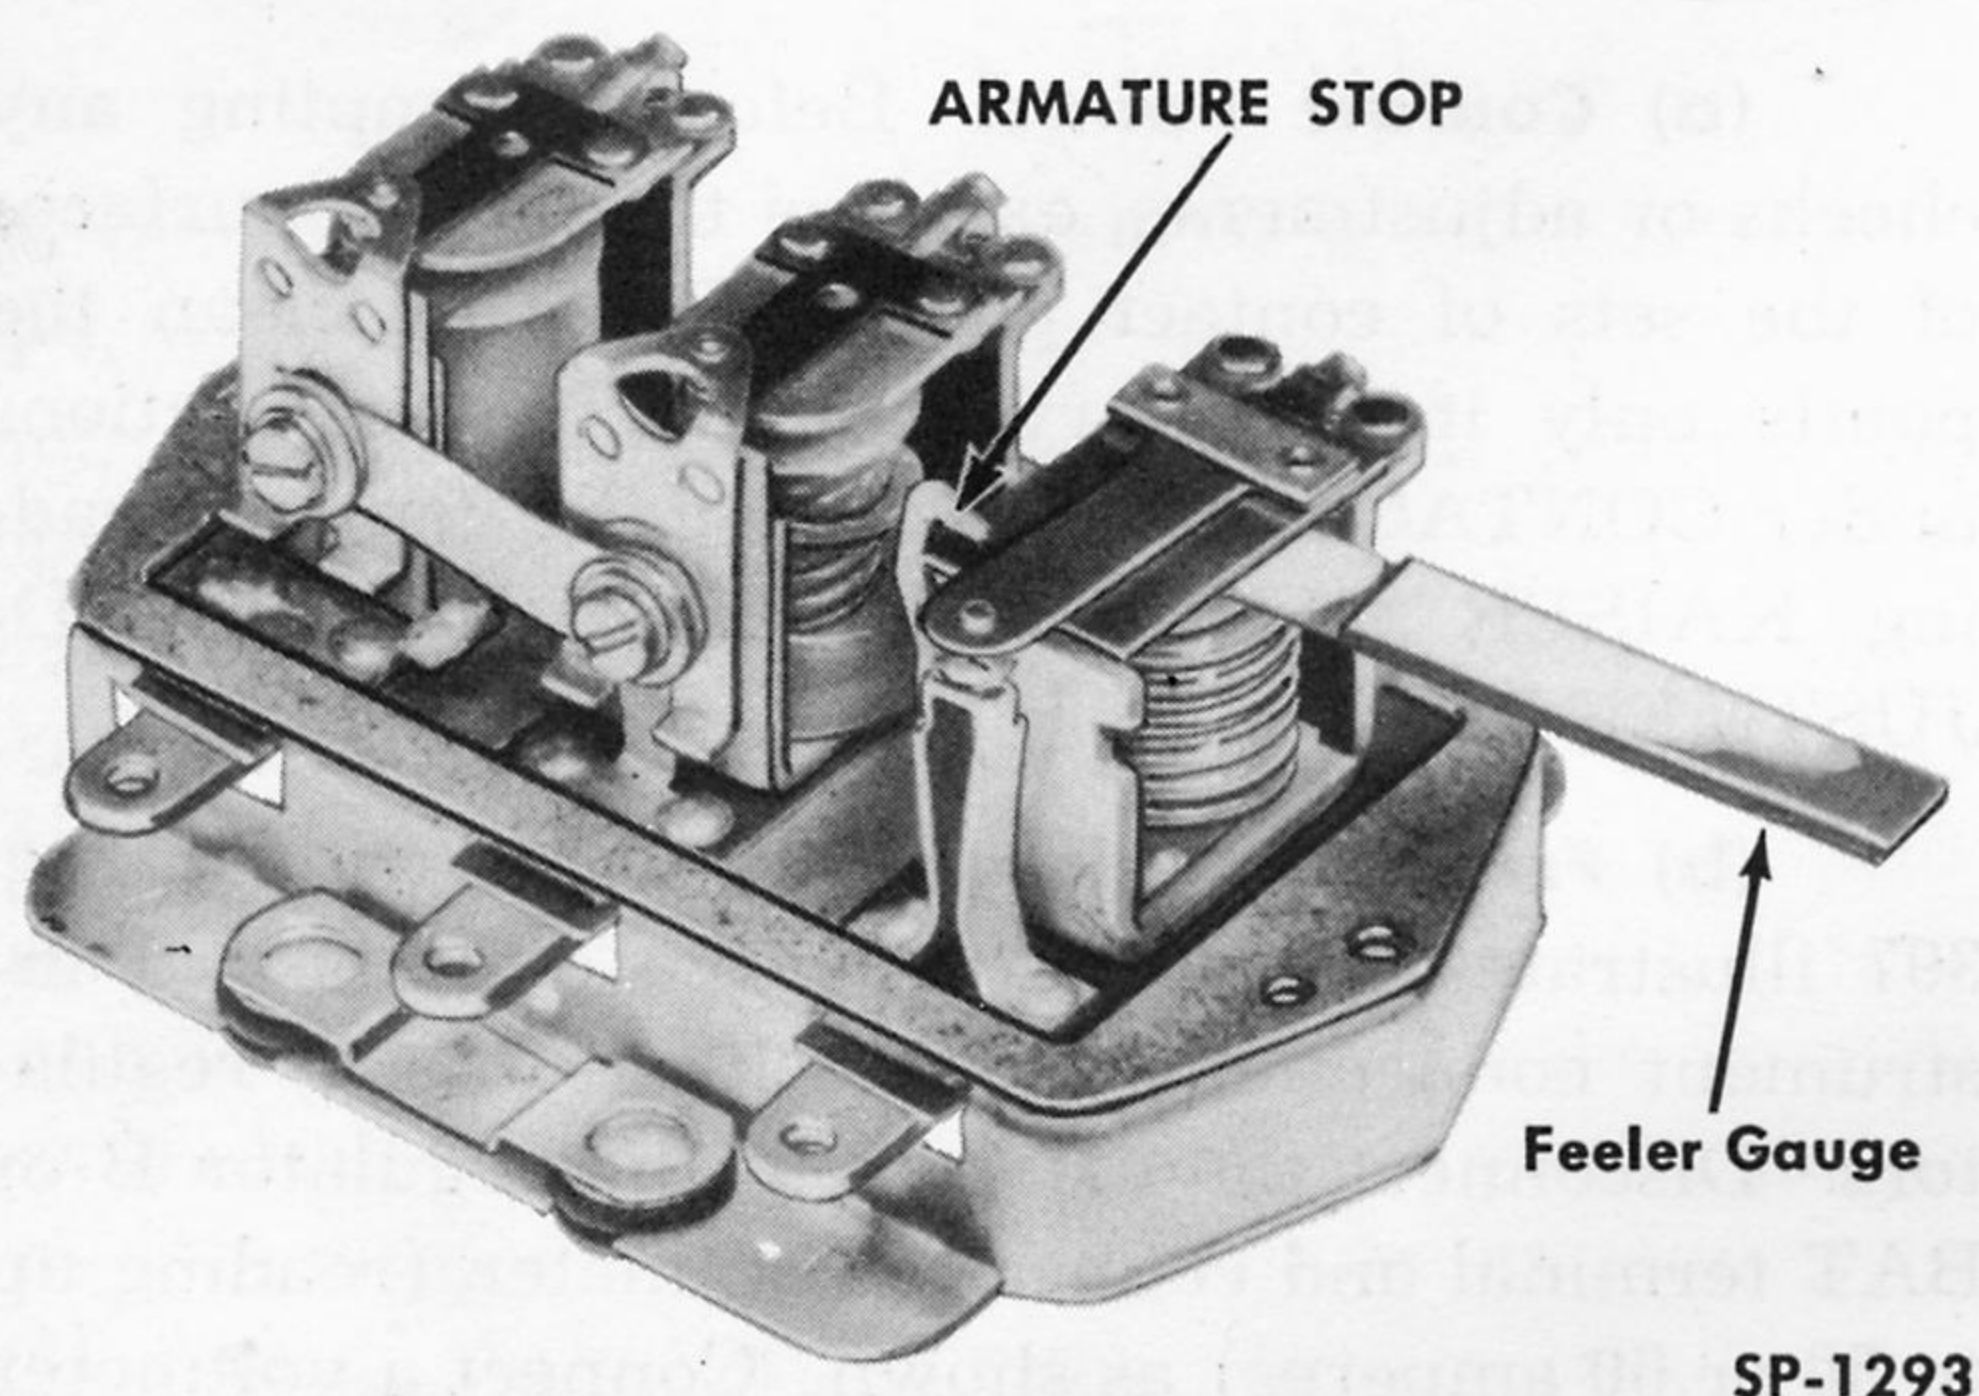

Fig. 410—Checking and Adjusting Frazer Breaker Armature Air Gap
(1) **Armature Air Gap.** Measured close to the hinge (Fig. 410) with the pin gauge of Generator Regulator Tool Kit C-828, this gap should be between .031 and .034 inch, with the armature against its stop. Adjust by bending the armature stop. Be certain there is no interference between the edge of the armature and the stop.